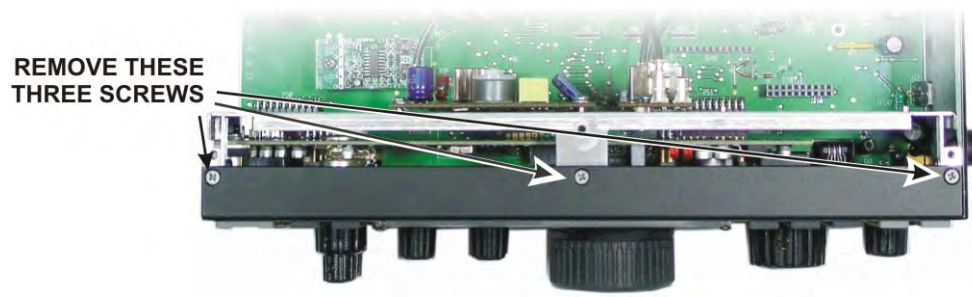

Figure 7. Removing Front Panel Mounting Screws.
Remove the three screws securing the top of the front panel assembly as shown in Figure 7.
**⚠ CAUTION:** Before continuing on with the next step, be sure you have removed the three top Front Panel Assembly screws shown in Figure 7. You may bend and damage the front panel or shield assemblies if the screws are not removed!
Fasten the top of the front panel assembly with three 4-40 3/16" (4.8 mm) black flat head screws (see Figure 7 on page 13).